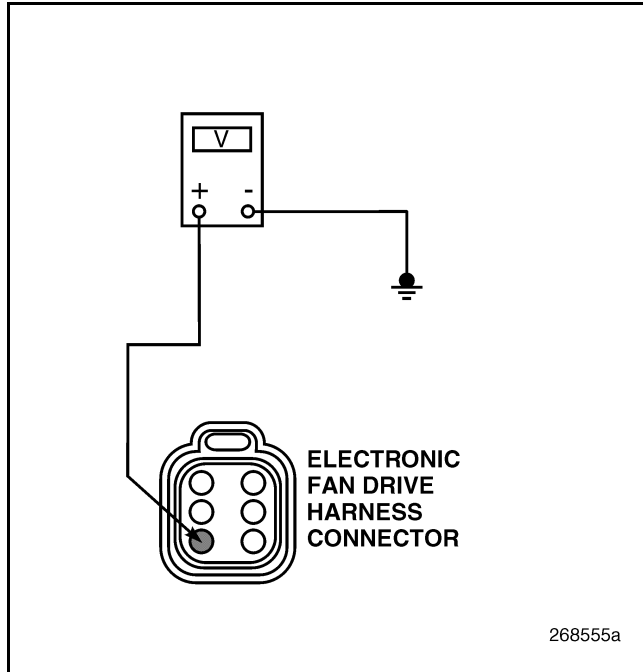

Figure 130
5. Measure the voltage between electronic fan drive harness connector pin 3 and a good ground (see Figure 130).